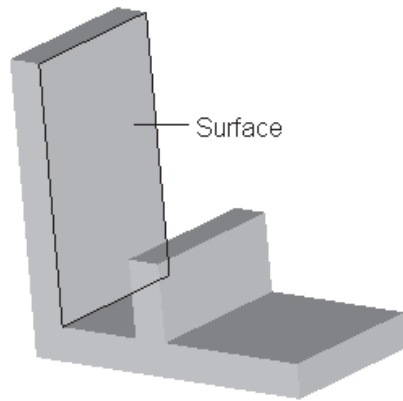

Figure 5-53 Planar surface selected to sketch
The second feature is a cylindrical feature that is sketched on the planar surface of the base feature that is highlighted in the Figure 5-53.
2. Select the planar surface of the base feature shown in Figure 5-53 as the sketching plane. The **DIRECTION** submenu is displayed. Choose **Okay** from this submenu. The **SKETCH VIEW** submenu is displayed.